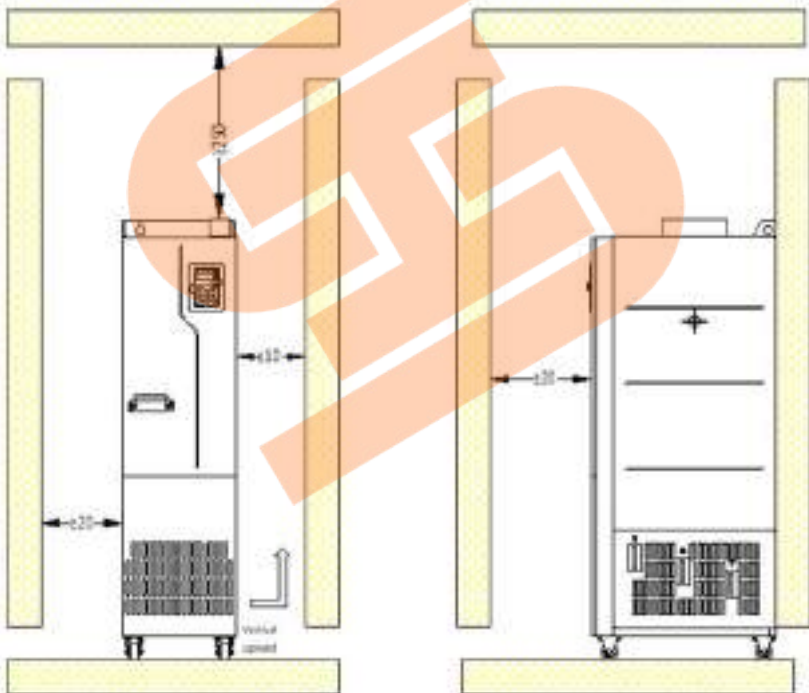

Figure 4-9 Mounting space requirements
- ◇ Figure 4-9 shows the mounting space. You not only need to reserve enough heat dissipation space for the VFD but also need to consider the **heat dissipation** condition for other devices in the cabinet.